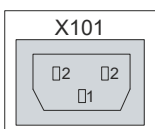

Fig. 3: Voltage socket 100-240 V
The power supply is connected via the IEC socket (X101) on the top of the industrial PC. The assignment includes a protective conductor (1), a neutral conductor (2) and an outer conductor (2) (see Fig. 3).